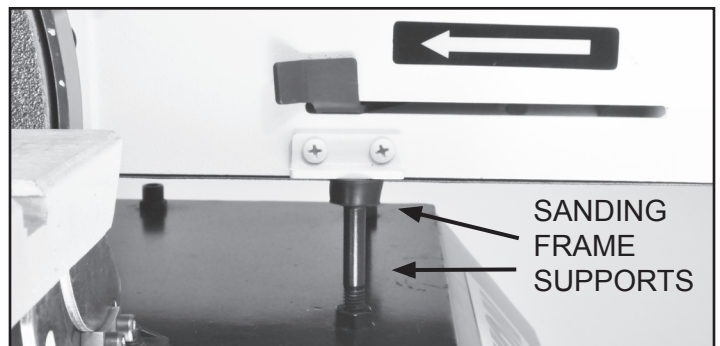

FIG. 13
3. In the horizontal position, there are two vertical padded Hex Screws (#32) that support the sanding belt frame. These should be checked and adjusted, if necessary, to make sure that they both touch the sanding frame Supports (#51). These screws will help relieve pressure on the casting during work. FIG. 13.